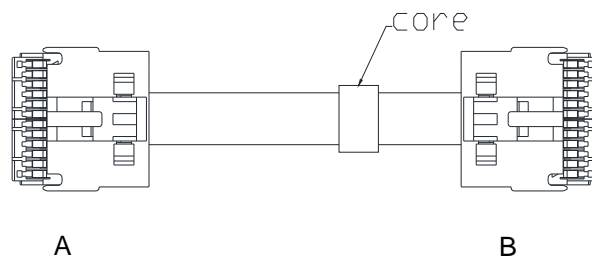

Fig. 8-12
- The following optional cards must be connected to the control board by using the connecting wire enclosed with the package. Refer to Fig. 8-12 for the connection wire. The terminal close to CORE is B-side, and the other end is A-side.